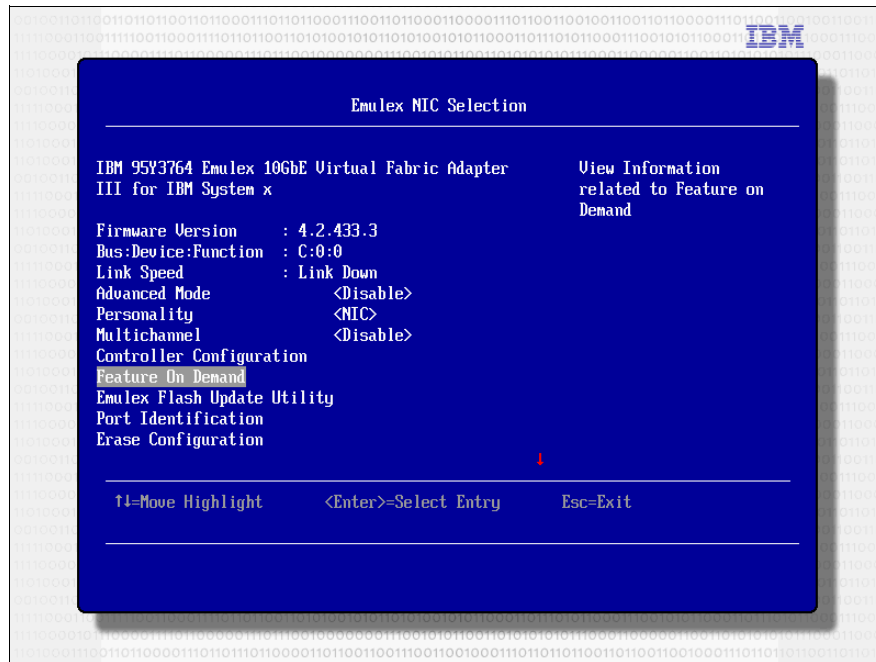

Figure 2-32 Example that shows Emulex NIC selection
6. Select **Feature On Demand**, as shown in Figure 2-32.